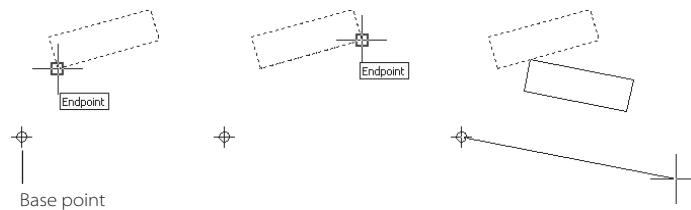

Figure 5.22
2. At the Specify base point: prompt, select a point around which the objects are to be rotated. In the example in Figure 5.22, the cross with the circle represents the base point. Once you select a base point, the objects rotate around the selected point as you move your cursor.
4. At the Specify the reference angle <0>: prompt, use the Endpoint osnap to select the endpoint of the line you want aligned with the cursor, as shown in the left image of Figure 5.22.
5. At the Specify second point: prompt, select the other end of the line you want to align with the cursor, as shown in the middle image of Figure 5.22.